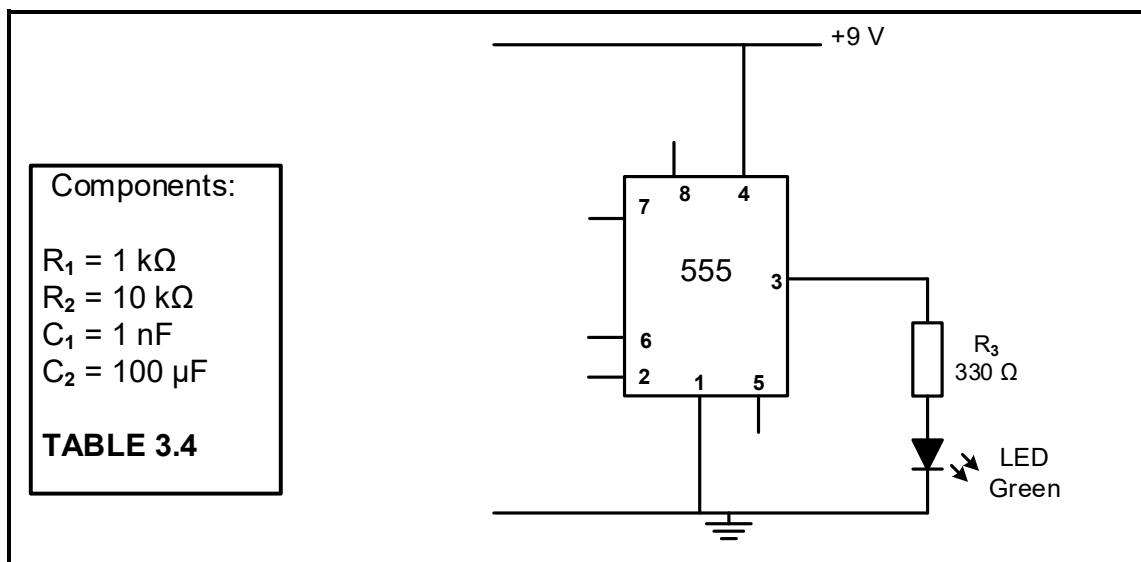

FIGURE 3.4: 555 IC PARTIAL ASTABLE CIRCUIT
- 3.4 Refer to FIGURE 3.4 below and complete the drawing by using the components in TABLE 3.4 on the ANSWER SHEET for QUESTION 3.4 to create an astable multivibrator.